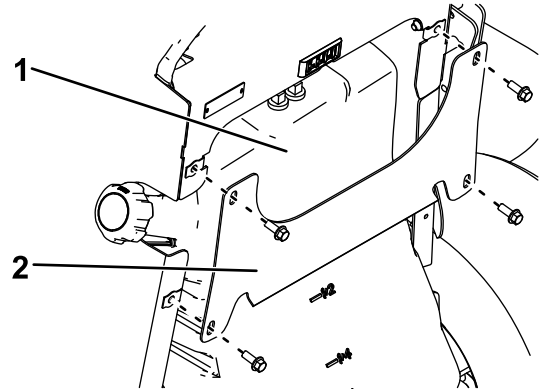

**Figure 30**
3. Clean around the fuel cap to prevent debris from getting into the fuel tank (Figure 30).
6. Using the syphon pump, drain the fuel into a clean gas can (Figure 30).